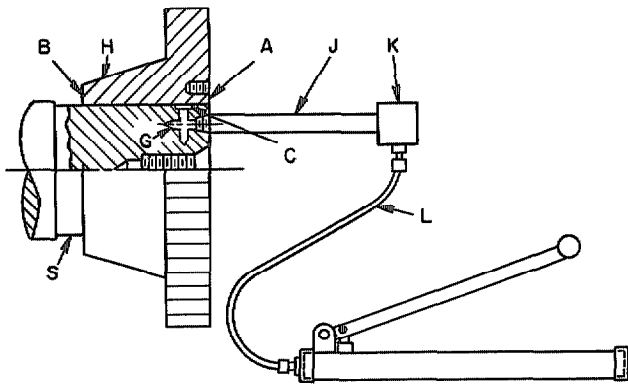

Fig. 2. Cut-away section of a hydraulically removable flexible coupling ready for removal
Figure 2 shows a typical cut-away section of a hydraulic coupling ready for removal. To remove the coupling, hydraulic pressure (approximately 25,000 psi) is applied to the circumferential groove (C) in the shaft extension (S). When this pressure exceeds the initial radial stress due to the interference fit, the coupling hub (H) expands a minute amount and allows oil to creep out into the fit in